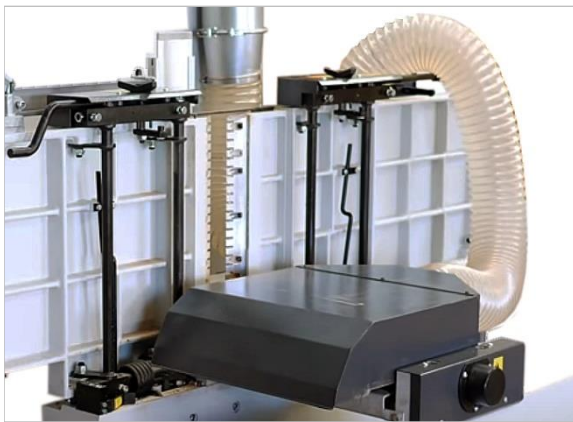

Figure 39: Suction hose position in thickness planing mode
- The suction hose can be hung over the raised in-feed table as shown in ⇒ Figure 39.